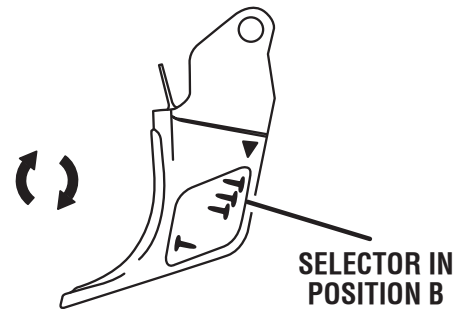

Fig. 12
- Rotate the selectable trigger knob on the trigger to Contact Actuation operation, Position B, as shown in figure 12.